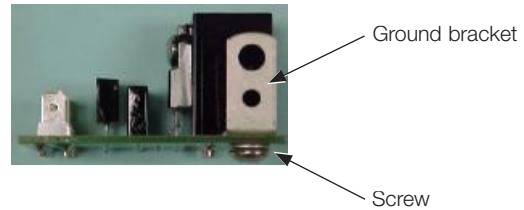

Figure 5.
1. Replace the grounding screw on the bottom of the CT Protector grounding bracket (Item 4) with the #8-32 SS machine screw (Item 17). Refer to Figure 5.